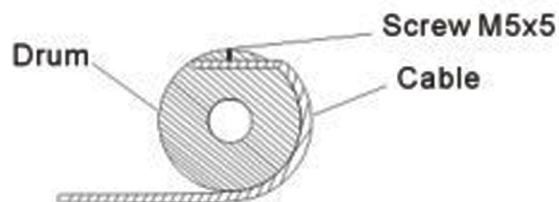

Figure 5
2) When inserting the wire rope into the drum, insert it into the correct end of the hold provided (fig 5). Tighten the set screw securely.